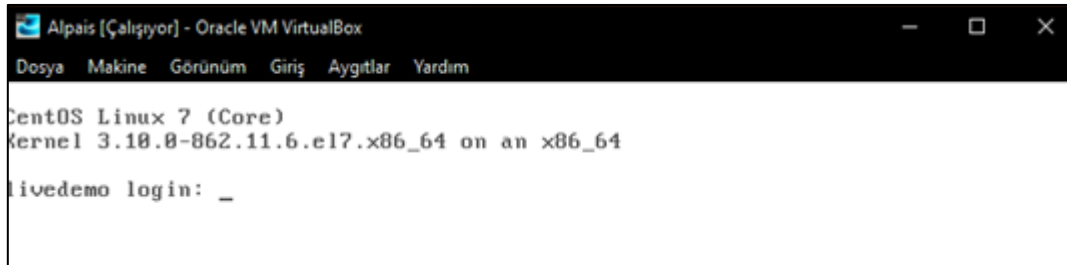

Figure 20. Login
- e) After clicking the Import message, the file is expected to get. After double-clicking on the file, it is waiting for the login screen to open. (If the Change Network Settings screen appears the first time the file is opened, press OK without making changes.) Login with the user name and password. (See Figure 20). See APP 5 for remote access. After access, the following input screen is displayed.